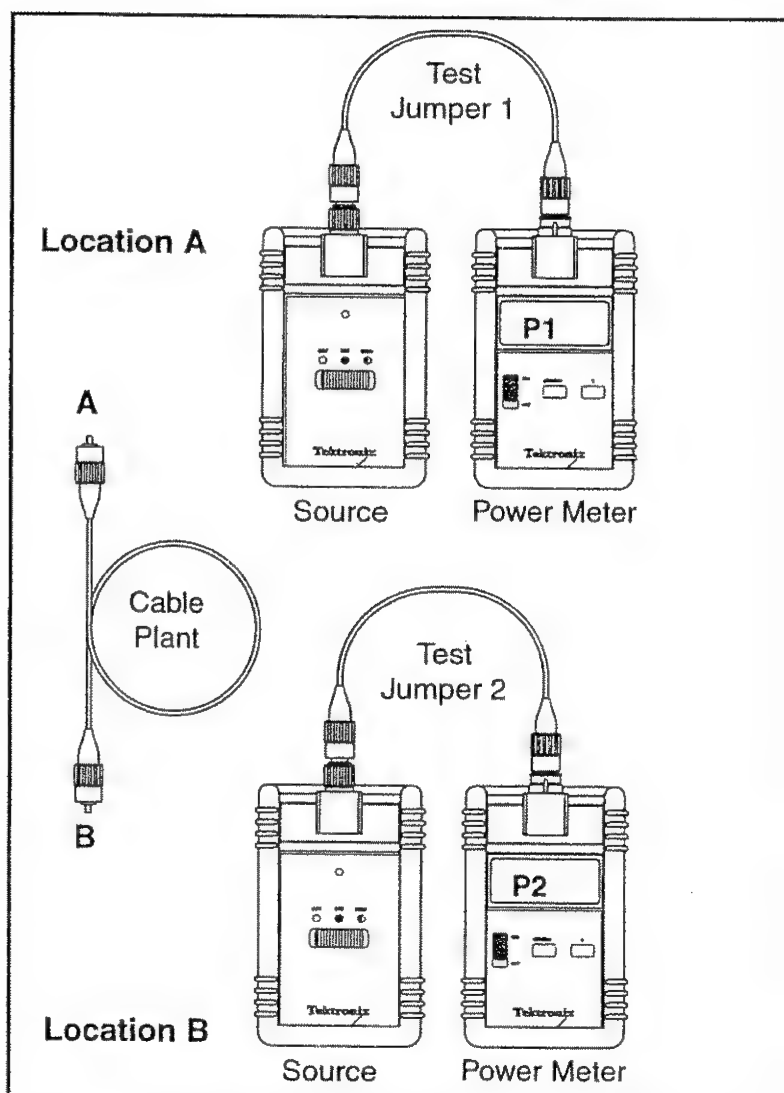

Fig 4.4 Checking the Local Test Set(s)
- A) If a complete test set (source and power meter) is available at each end, it is advisable to test the output power of the TOP series sources and the condition of the test jumpers. Connect the local source and power meter together with a test jumper per Figure 4.4. The source should be set to continuous (CW) output mode and the power meter set to the correct wavelength and dBm display units. Note the P_1 and P_2 dBm readings. For example, a TOP140 laser source should read between -9.5 and -10.5dBm on the power meter.